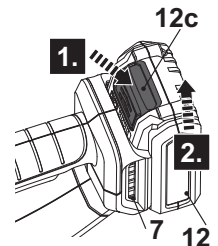

Fig. 3
2. Press the release button (12c) and remove the battery pack (12) from the battery docking port (7) (Fig. 3).